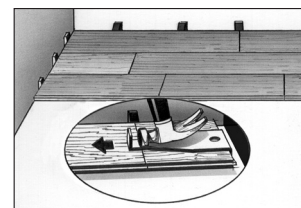

Figure 9
- Use a pull bar when necessary to ensure joints are tight (Fig. 9).